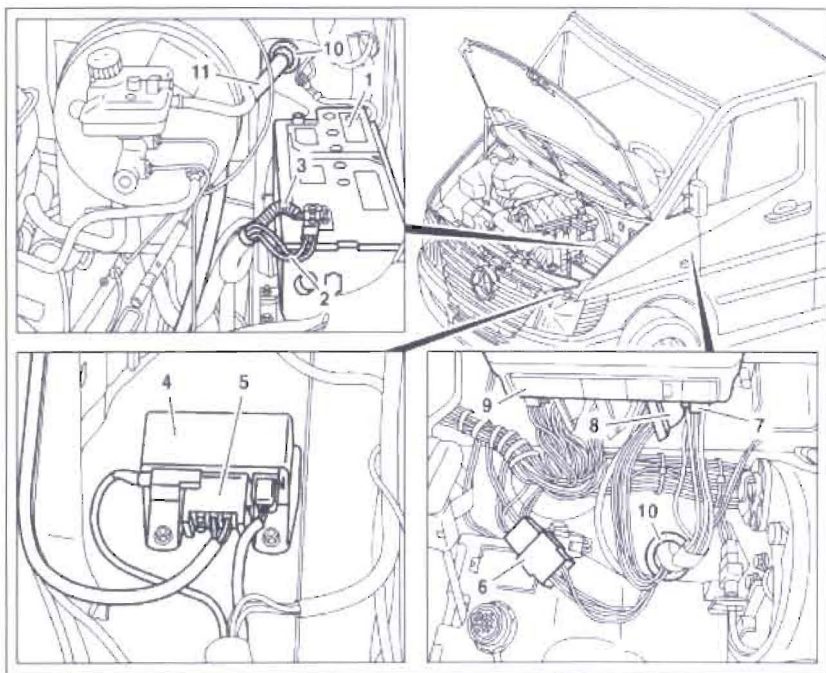

Figure 18
33. Disconnect connector (5, Figure 18) from glow plug relay (4).
- Disconnect connectors (7, 8, Figure 18) from CDI control module (9).
- Separate connector (6, Figure 18)
- Pull engine harness grommet (10, Figure 18) out from bulkhead then route engine wiring harness (11, Figure 18) out from passenger compartment.